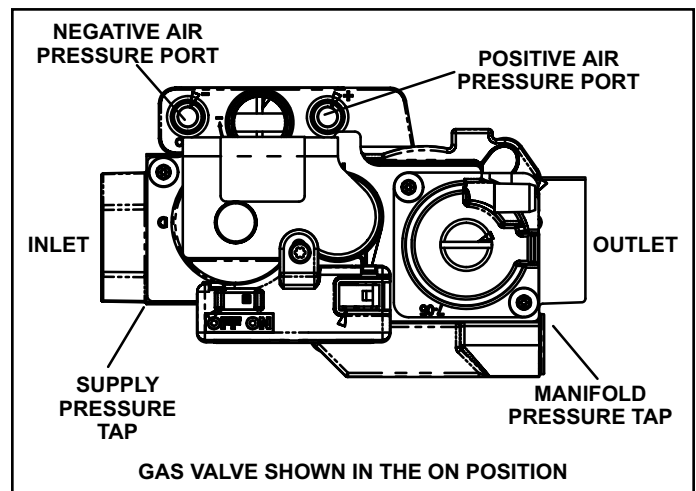

Figure 67. Gas Valve
See Figure 67
6. Move gas valve switch to OFF. See Figure 67.
8. Move gas valve switch to ON. See Figure 67.